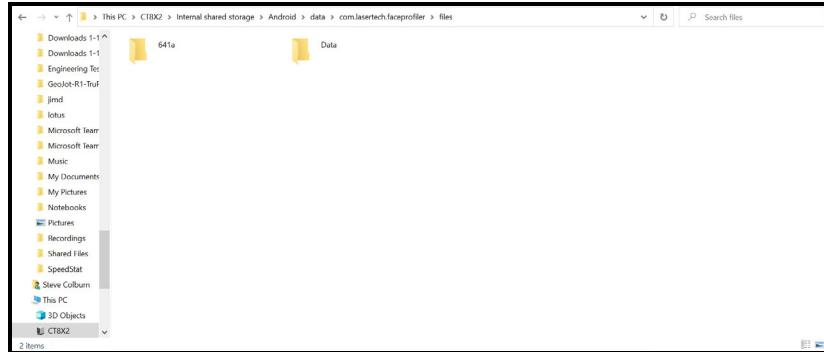

Figure 59
**NOTE** If using a cable to transfer saved reports to a PC see Page 52 for more information. The reports can be found here: Device Storage/Android/data/com.lasertech.faceprofiler/files/. Within this folder, a folder is automatically created and named after the Job. All reports and photos saved for a Job can be found in that folder (Figure 59).